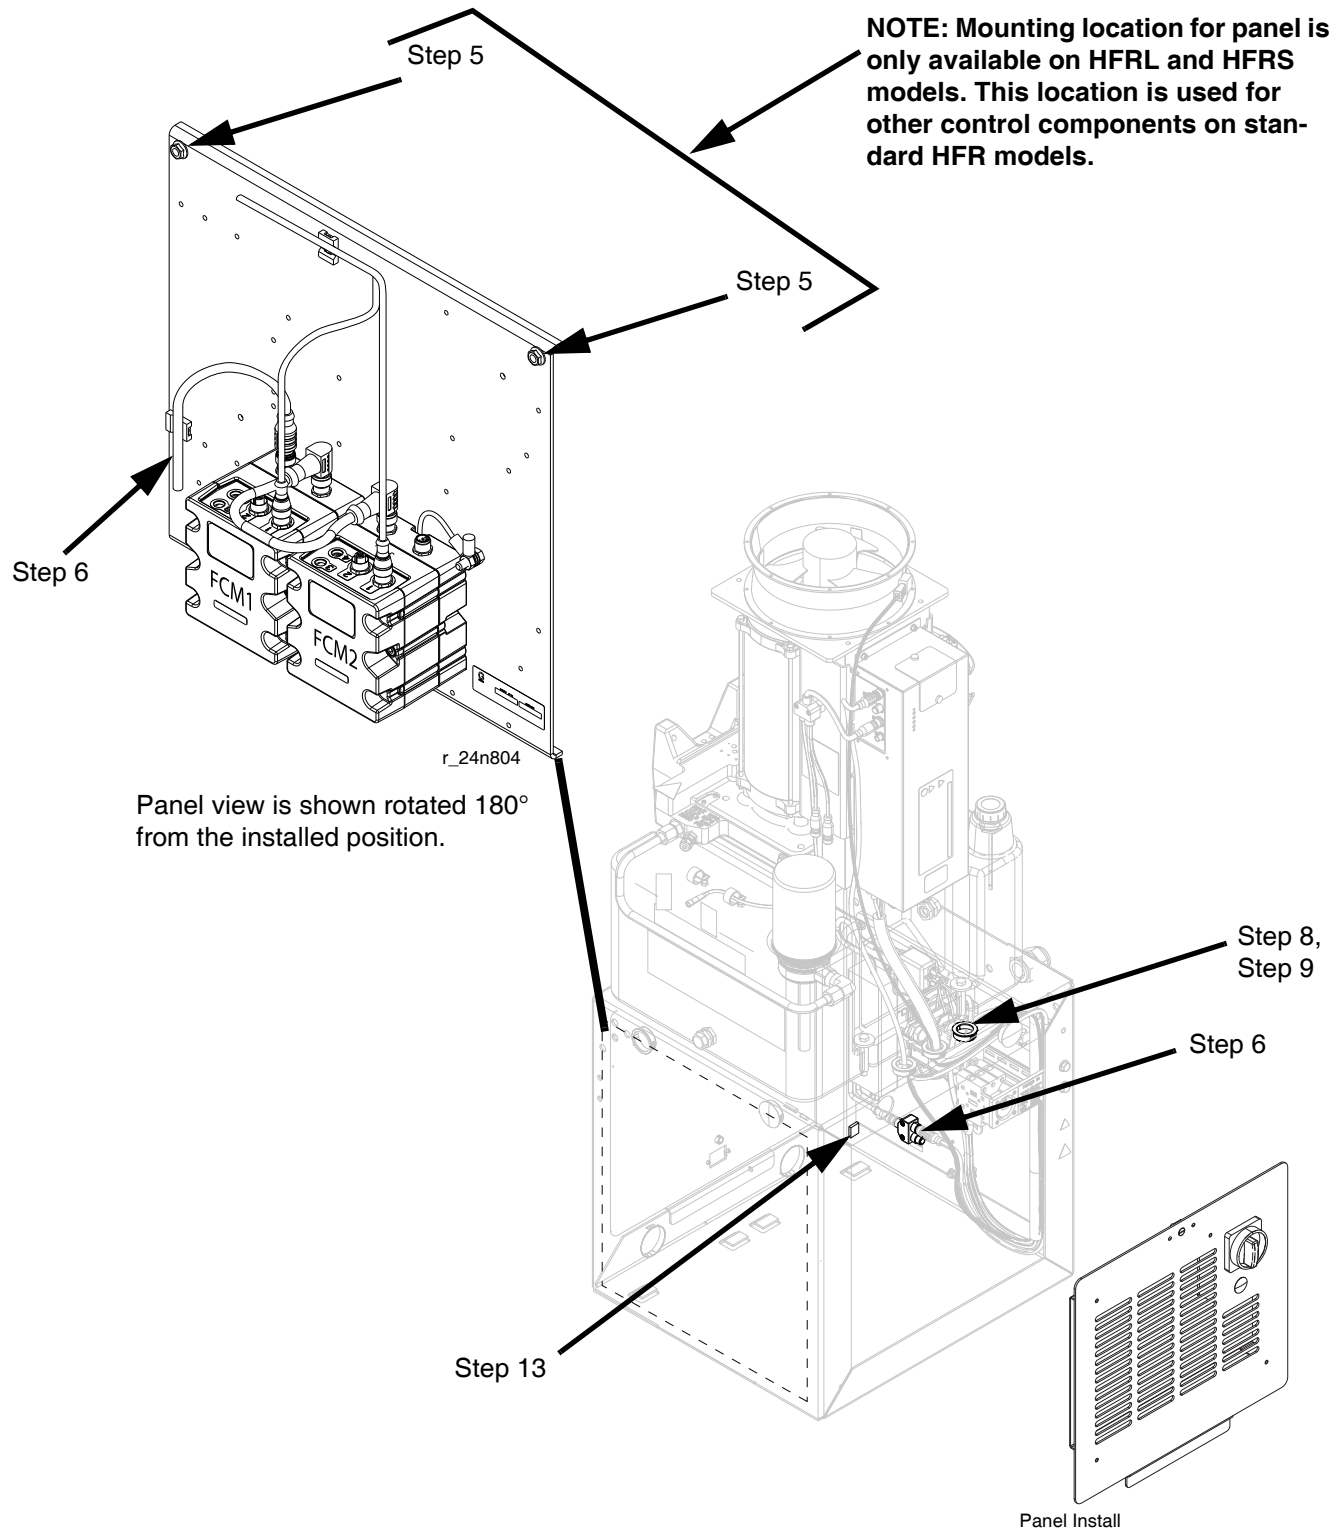

FIG. 6: Install Electrical Panel
13. Attached the wire anchor to the inside face of the base by inserting the provided screw through the anchor and the weld nut indicated in FIG. 6. Secure in place by tightening the hex nut on the screw from the outside of the base.